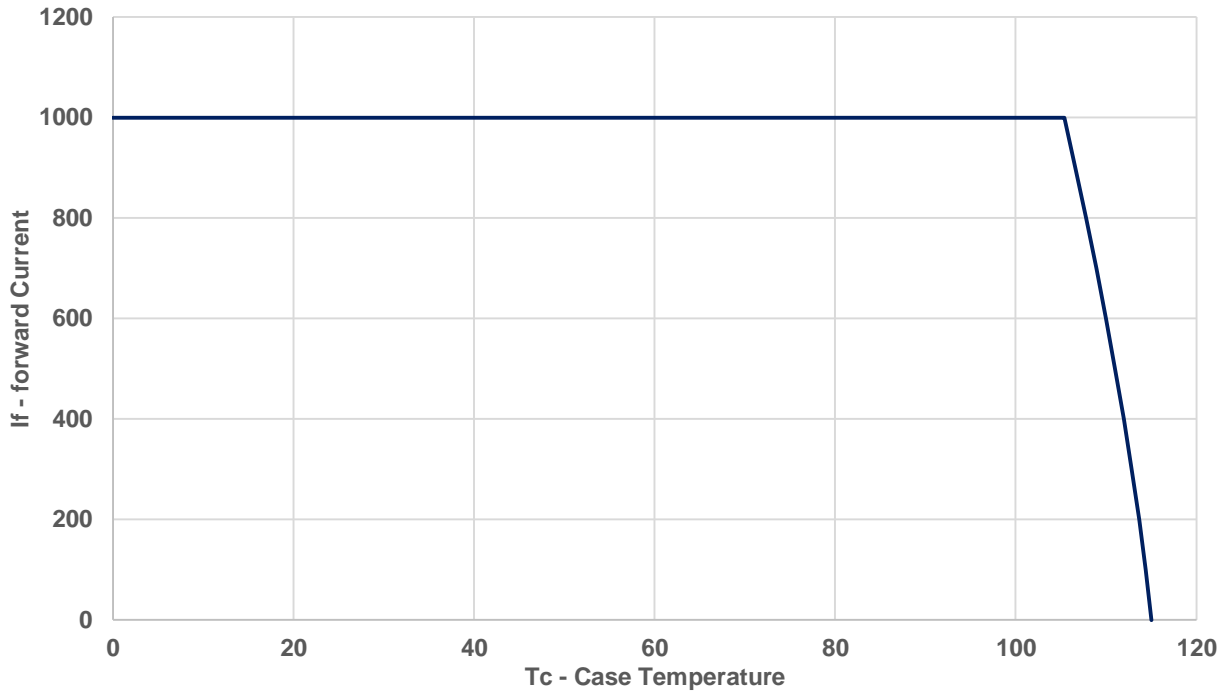

Figure 11: Maximum forward current vs. case temperature based on TJ(MAX) = 115°C
- Maximum DC forward current is determined by thermal resistance and case temperature. Follow Figure 11 for current derating.
Notes for Figure 11: